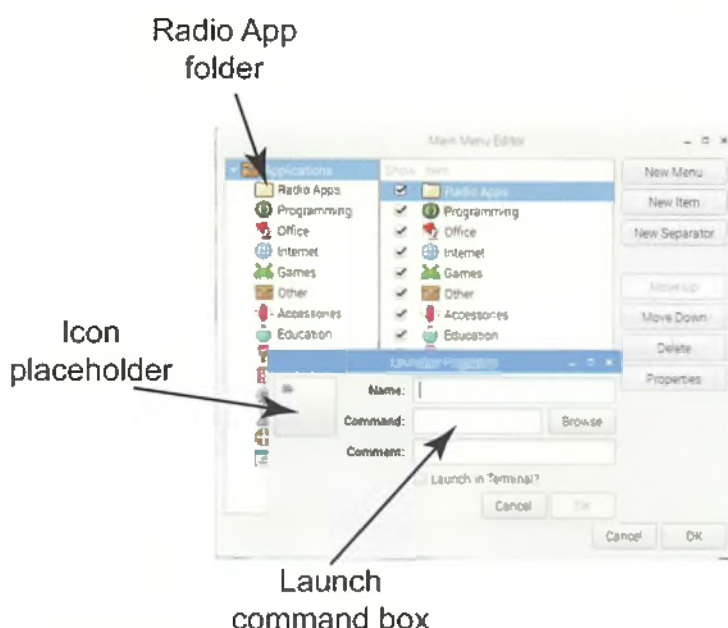

Fig. 1: The Pi Application Launcher.
6. This opens the application launcher panel, Fig. 1, where you can enter QSSTV as the name and you should press the Browse button to find the executable file for QSSTV.
It's also helpful but not essential to add an icon for the installed software. To do that while the New Item panel is open, click on the icon placeholder, Fig. 1, navigate to `/home/pi/qsstv_9.2.4/qsstv/icons` and click on `qsstv.png`. If you want to also have QSSTV available via a desktop icon, simply click the start button and navigate to your new QSSTV entry via the Radio Apps and then right-click on the icon and you will see an option to add it to the desktop.